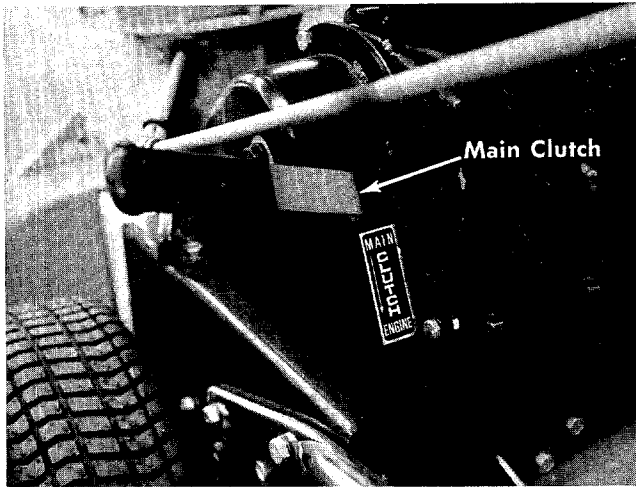

FIGURE 1
**MAIN Clutch.** This clutch shuts off the power to the wheels and auger. When the handle is up it is in the disengaged position. It is shown in the disengaged position in the photo. (See figure 1.)